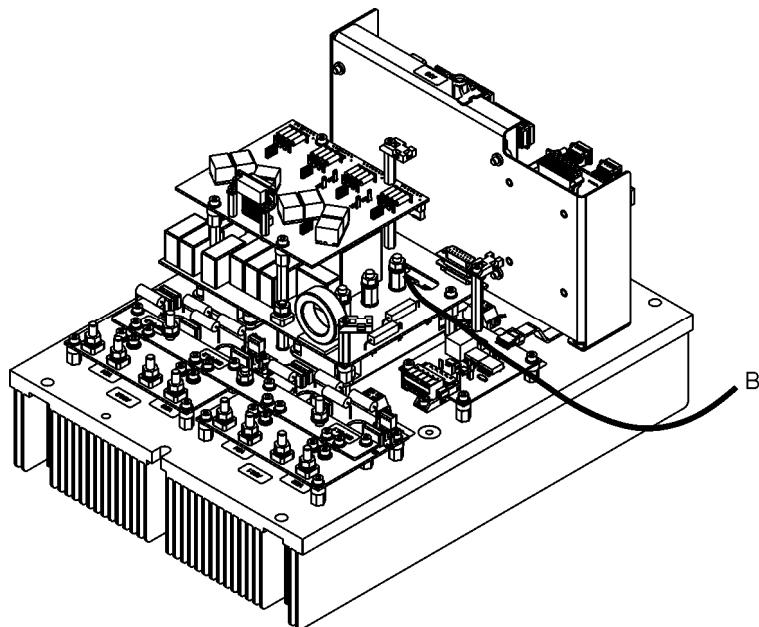

Figure 5-40: L402 Electrical Connections on A401
- b. Disconnect cable B (see Figure 5-40). This cable makes a short jump from the choke to the C1 terminal of the A01 board on the A401 LVPS Combined Module. The cable is held in place with an M6 nut, M6 Schnorr washer and M6 flat washer. Remove these fasteners to disconnect the cable.
- b. Connect cable B (see Figure 5-40). This cable makes a short jump from the choke to the C1 terminal of the A01 board on the A401 LVPS Combined Module. The cable is held in place with an M6 nut, M6 Schnorr washer and M6 flat washer. Connect this cable and affix these fasteners to connect the cable.